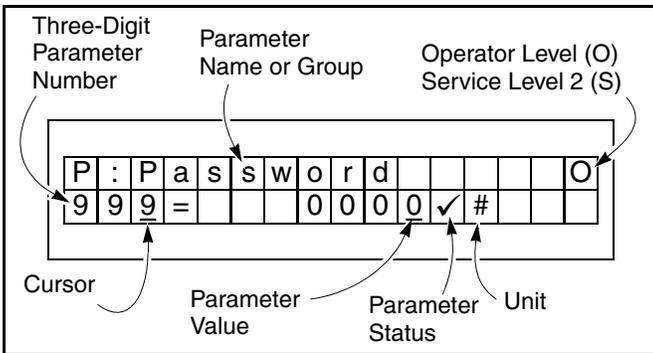

Figure 31
2. To access Service Level 2, scroll to password parameter 999 (P.999). Then briefly press and release the reset (●) key. The cursor will jump from the three-digit parameter number over to the parameter value on the display. (See Figure 31.)